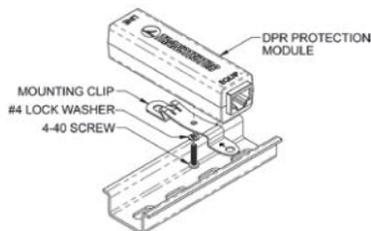
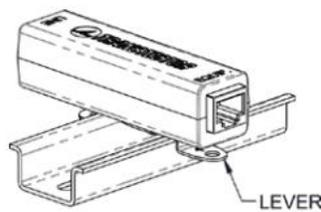

Figure 1a
Figure 1b
1. DIN-Rail mounting – attach the provided mounting clip to the DPR protection module in line with the base, using the provided 4-40 screw and lock washer. Attach the assembled module to an available location on a 35mm DIN-Rail as shown in Figure 1a. To detach the module from the DIN-Rail, lift up on the lever as illustrated in Figure 1b.